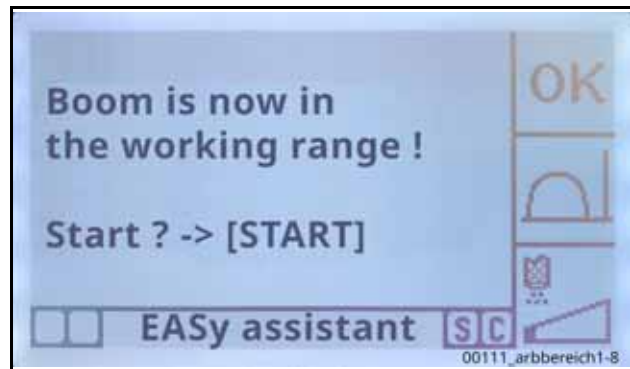

Fig. 529
- Confirm that the "EASy front" work area has been reached on the control cabinet of the VECTOR control or on the remote control (**Fig. 529**).